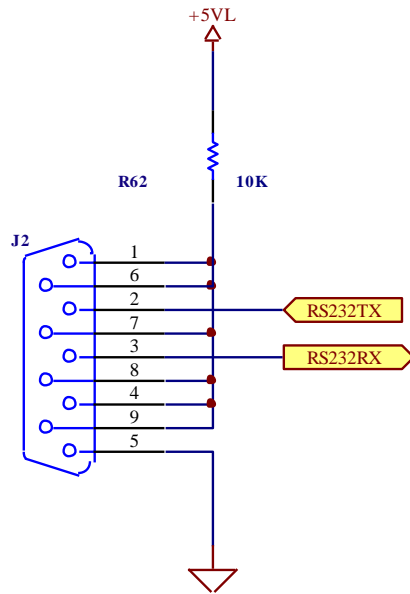

Figure 2.3 RS232 Connections
- **RS232 Connection:** The RS232 Serial Port connector is a male DB9, and the connections are given in figure 2.3 on the following page. This interface allows computer control of the modulator, as well as monitoring of all controller operating parameters displayed on the front panel.